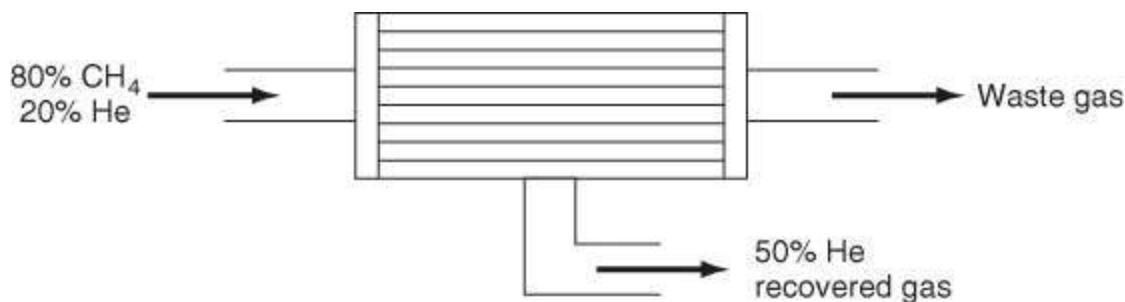

Figure P4.1.8
****4.1.8.** A gas containing 80% CH_4 and 20% He is sent through a quartz diffusion tube (see Figure P4.1.8) to recover the helium. Twenty percent by weight of the original gas is recovered, and its composition is 50% He. Calculate the composition of the waste gas if 100 kg moles of gas are processed per minute.